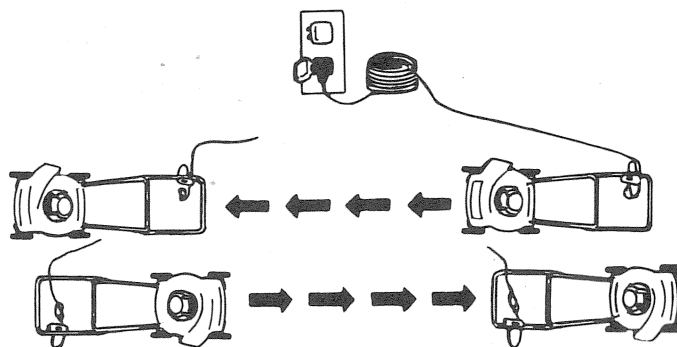
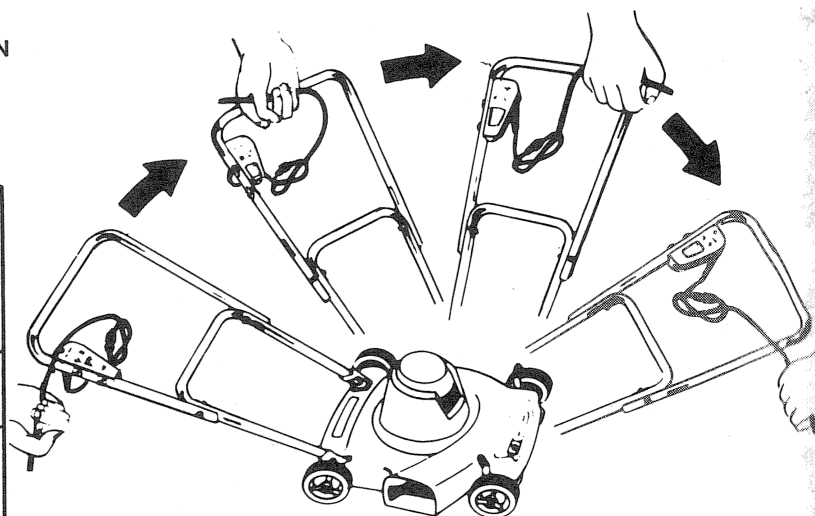

FIGURE 9
FIGURE 10
2. Place most of the extension cord close to the electrical outlet, out of the path of the mower (Figure 9). **CAUTION:** Do not plug extension cord into receptacle outlet while standing in water or when hands are wet.
3. Begin mowing in the area closest to the outlet and mow in a back and forth manner (Figure 9). When you reach the edge of the lawn, **pivot the mower on the rear wheels, the front of the mower moving toward the cord.** At the same time, grasp the cord and flip the cord over the mower so that cord again lies on cut portion of lawn (Figure 10). This action at the end of each cut will keep the extension cord away from the path of the mower.